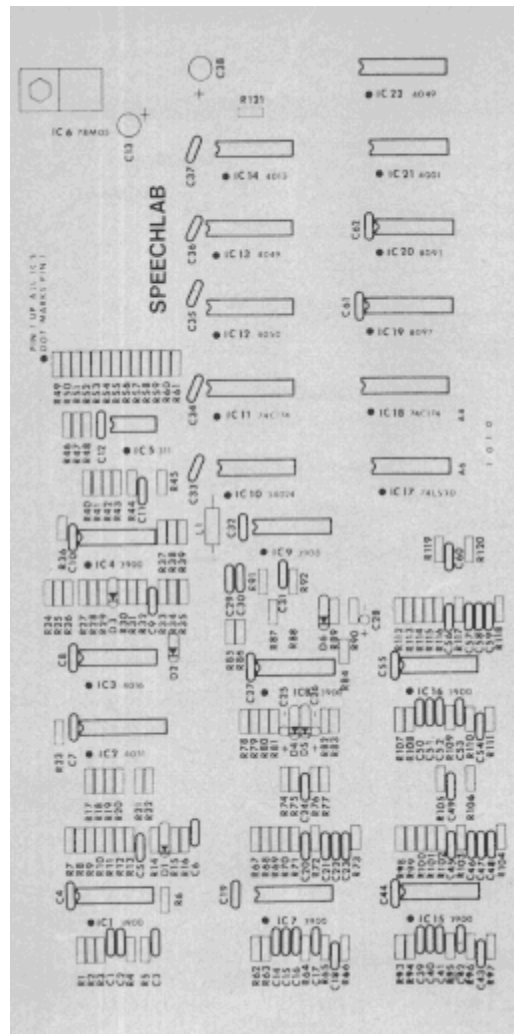

Fig. 9. Component layout for the Speechlab. See etching and drilling guide on previous page.
- The two foil patterns (Speechlab uses one double-sided PC board) are shown half-size in **Fig. 8**. (Blow up to full size on film only.) Component layout is shown in **Fig. 9**.
- Fig. 8. Etching and drilling guides for pc board are shown half size. Guide at left is the component side. Component layout is in Fig. 9.